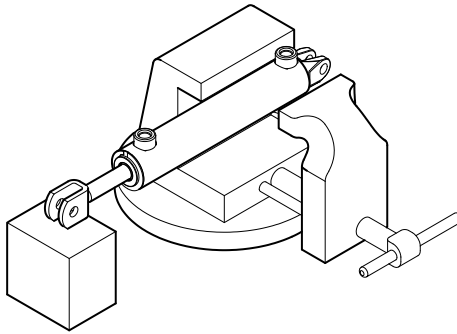

Figure 4-1, Cylinder Vise
2. Clamp the cylinder lightly at the base end in a soft jawed vise. Use a block or other support under the rod end of the cylinder. (Figure 4-1)